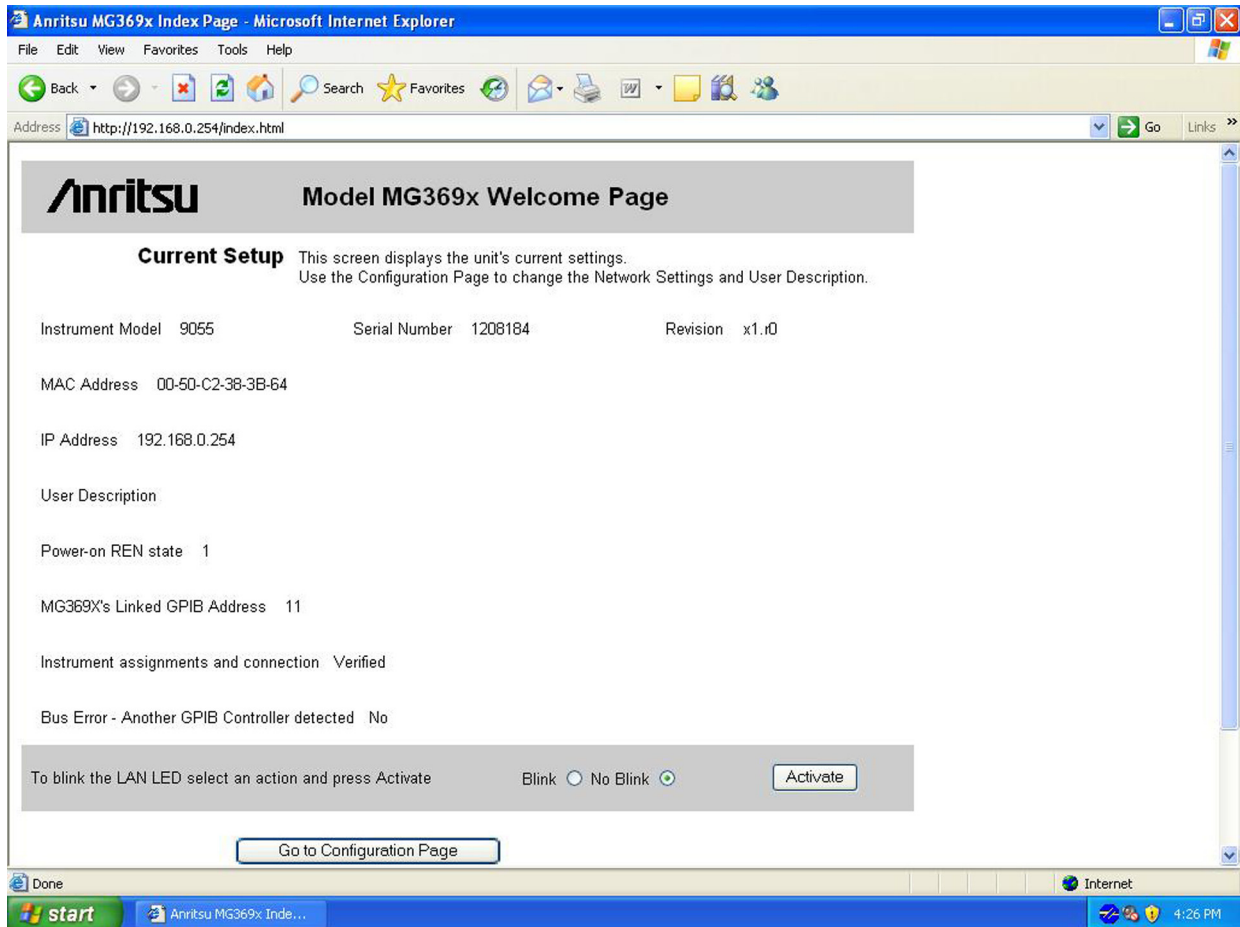

Figure 1-10. Ethernet Configuration Confirmation Page
6. Click the Update Flash button to complete the configuration. The TCP/IP Confirmation Page appears as shown in Figure 1-10 on page 1-19 (refer to “TCP/IP General Requirements and Settings” on page 1-13 for information on the below settings).